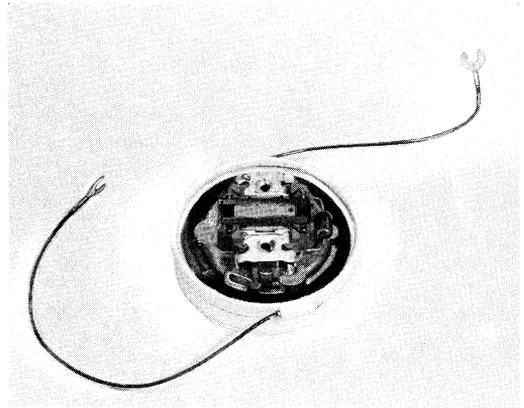

Fig. 13—Receiver Unit and Gasket Installed in Coil Assembly
- (6) With the receiver unit in place in the coil assembly, install the gasket on top of the receiver unit (Fig. 13). Place complete assembly in the chassis assembly receiver cup.